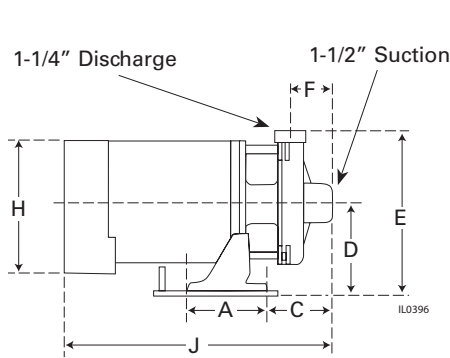

Figure 3 - CJ103 Single Stage Booster Pump
2. The diameter of the suction and discharge pipe should be no smaller than the corresponding tapings of the pump (see Figure 3 & 4). If long runs are encountered larger pipe should be used. Smaller pipe will reduce the capacity of the pump.